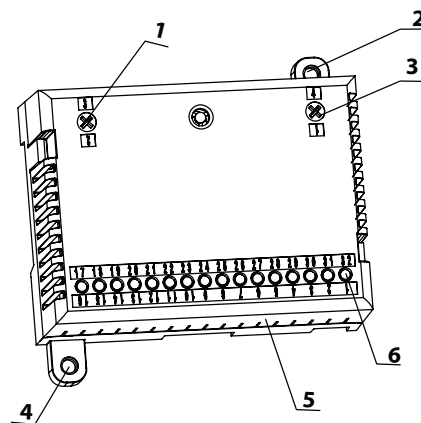

Fig.1 - Picture of input/output module
Input-Output device 7203M (fig.1) is designated to produce and send an electrical signal to various devices in case of occurred events and recording external impacts, typical for a fire condition events. Device is compatible with addressable fire control panels 7000M, supplementing the possibilities of the addressable system.
The device consists of a printed circuit board with elements, mounted on a plastic base and closed by a cover. The base has an implemented terminal bus (pos.6 and pos.5, fig.1) through which cables connect the addressable loop, the power supply and etc.
Two LED indicators are built-in on the device PCB, illuminated in yellow (pos.3 fig.1) and red light (pos.1 fig.1), providing device status information.
LED indication (pos.1 и 3, fig.1) is providing information for the device condition/status as follows:
The cables are assigned through terminal bus (pos.6 and 5, fig.1).